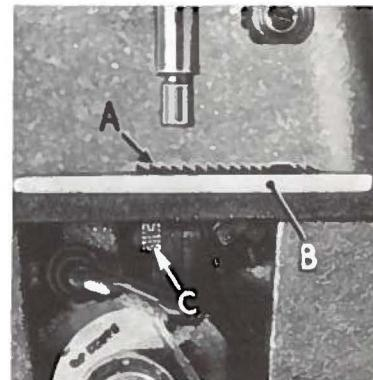

Fig. 5
Set the feed dog (A, Fig. 5) with tips of teeth parallel with and project their full depth above the throat plate (B) at high point of travel. Adjust feed dog support screws (C) under back of feed dog to maintain this setting. These screws are also used to level the feed dog across the line of feed.